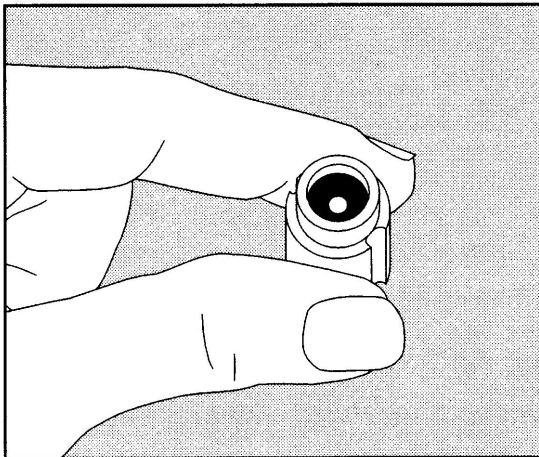

Figure 5. View of gasket in place on jaw seal
1. Replace clean or new gasket in the lower and upper jaw seals (Figure 5).